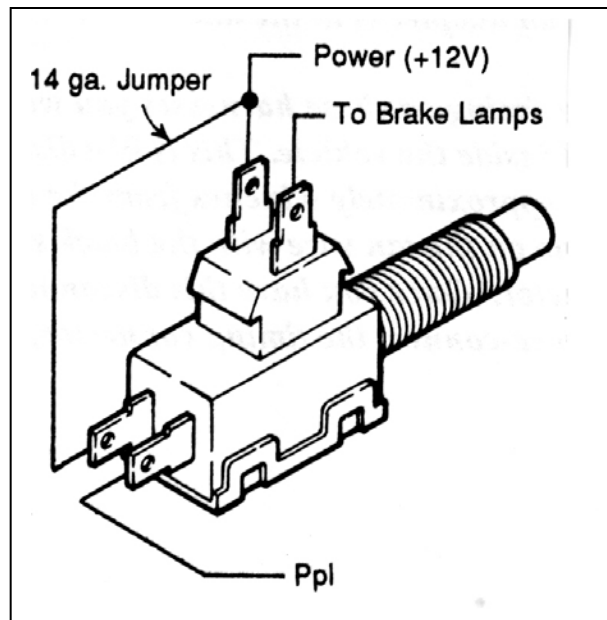

Figure 6.3 Brake Switch Connection
- F. If you are using the recommended brake switch then you will wire it according to **Figure 6.3**. The wire jumped to the back of the switch in the illustration is the wire that has power on it whether or not the brake is being applied. If you have installed your own switch then it must connect the single purple wire to power ONLY when the brakes are NOT being applied. If you are using a hydraulic brake switch see page 25 for proper wiring using a relay.